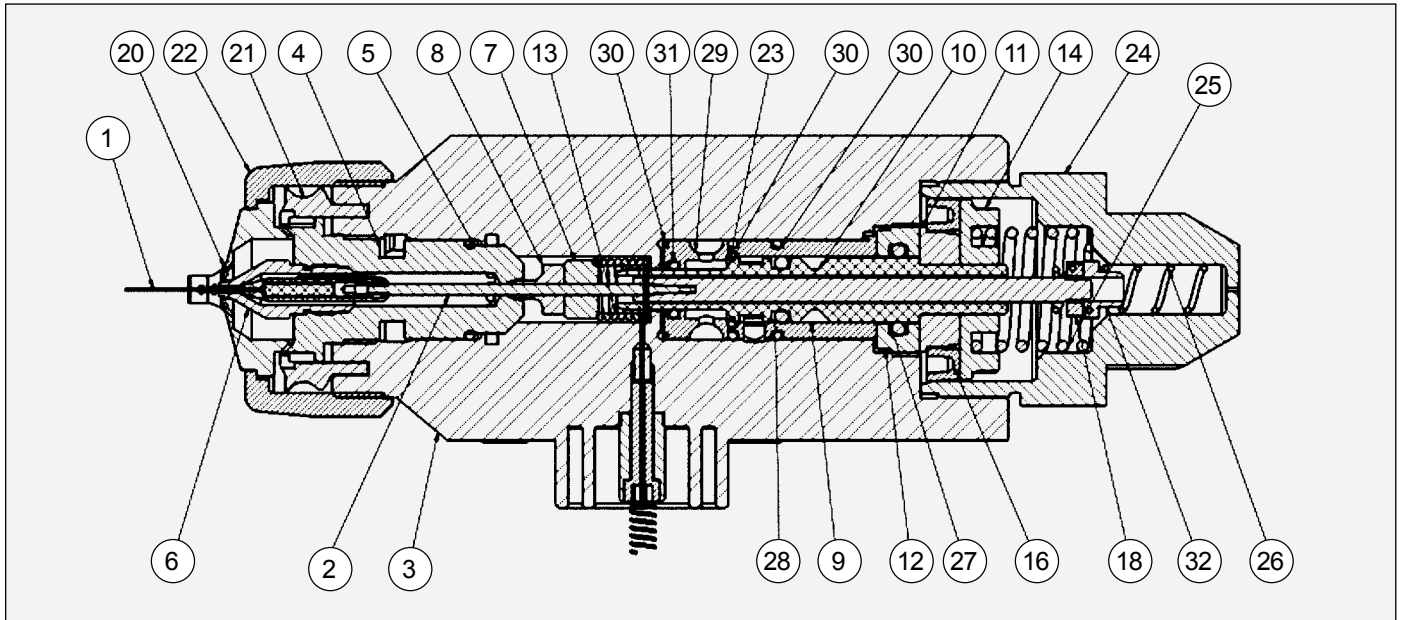

Figure 14: Head Sub-Assembly
## Rear Needle Replacement (See Figures 14 and 15)
## Air Valve Removal From Head Assembly (See Figures 14 and 15)
8. Reassemble the remaining parts as shown in Figure 14 making sure that the alignment tab on the bushing [9] lines up with the align groove in the body [3].
(See Figures 14 and 15)